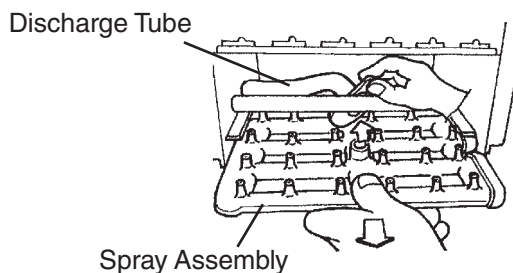

Fig. 40
7. Disconnect the discharge tube from the spray assembly, then slide out the spray assembly. See Fig. 40.